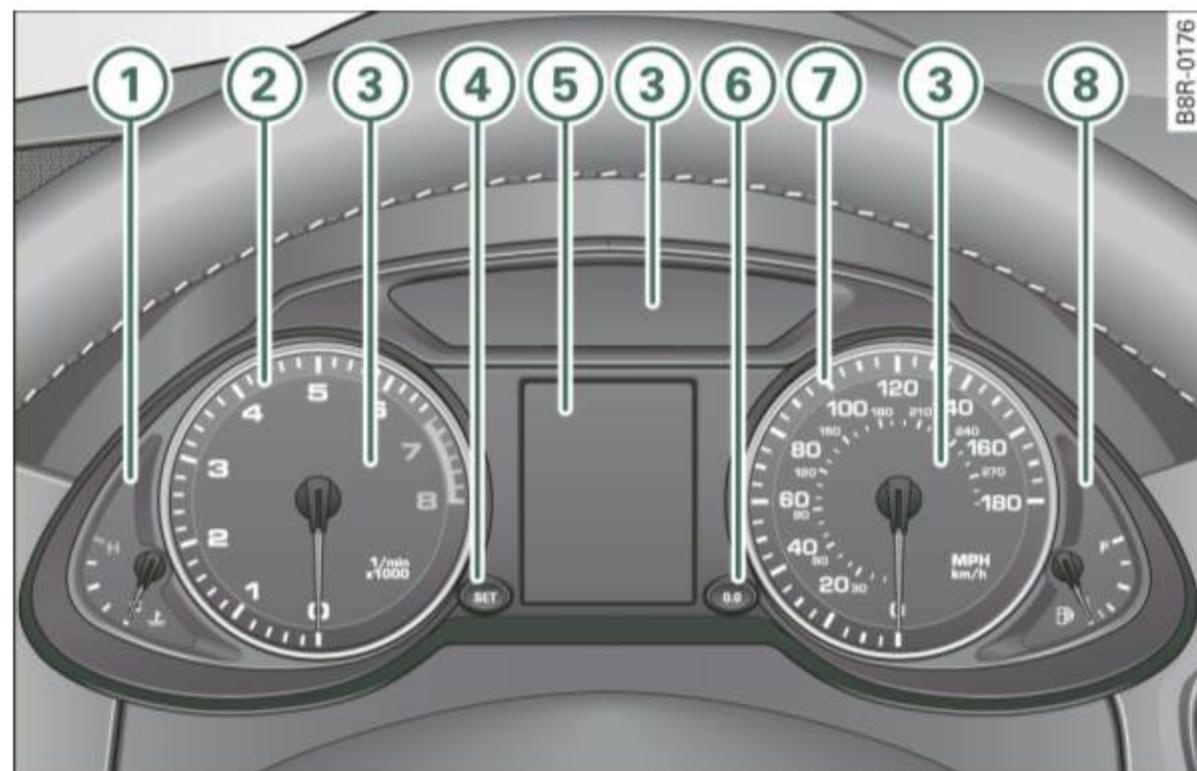

Fig. 2 Overview of the instrument cluster
The engine coolant gauge ⇒ fig. 2 ① only works when the ignition is on. To prevent damage to your engine, please note the following important points:
The tachometer needle  ⇒ *page 8*, fig. 2 should only briefly be in the red zone: you could damage your engine! The beginning of the red zone varies depending on the engine.